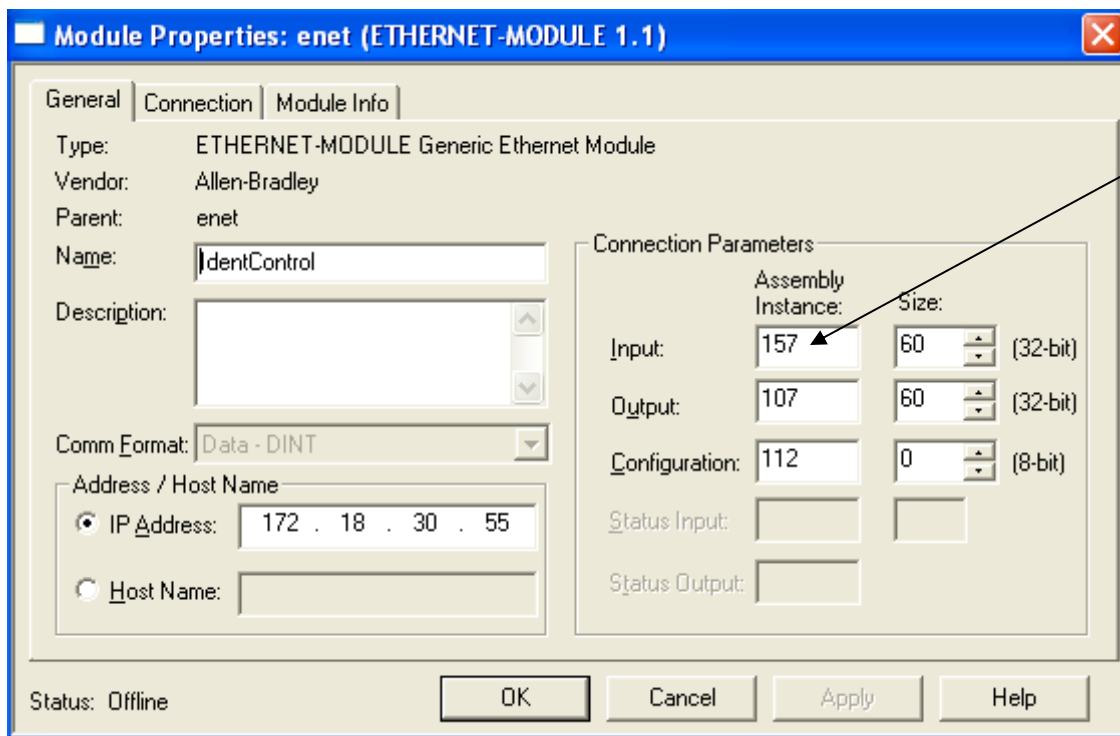

Figure 12: Assembly instance data in generic Ethernet object to place in Assembly instance parameter
**Assembly\_Instance\_Input** – This is exactly the assembly instance that was used to setup your RFID system in the first place. This number must be exactly correct. Go to your I/O configuration of your PLC and then to the generic Ethernet module used for configuring the ID system. See Figures 12 and 13 to see where to get this information.